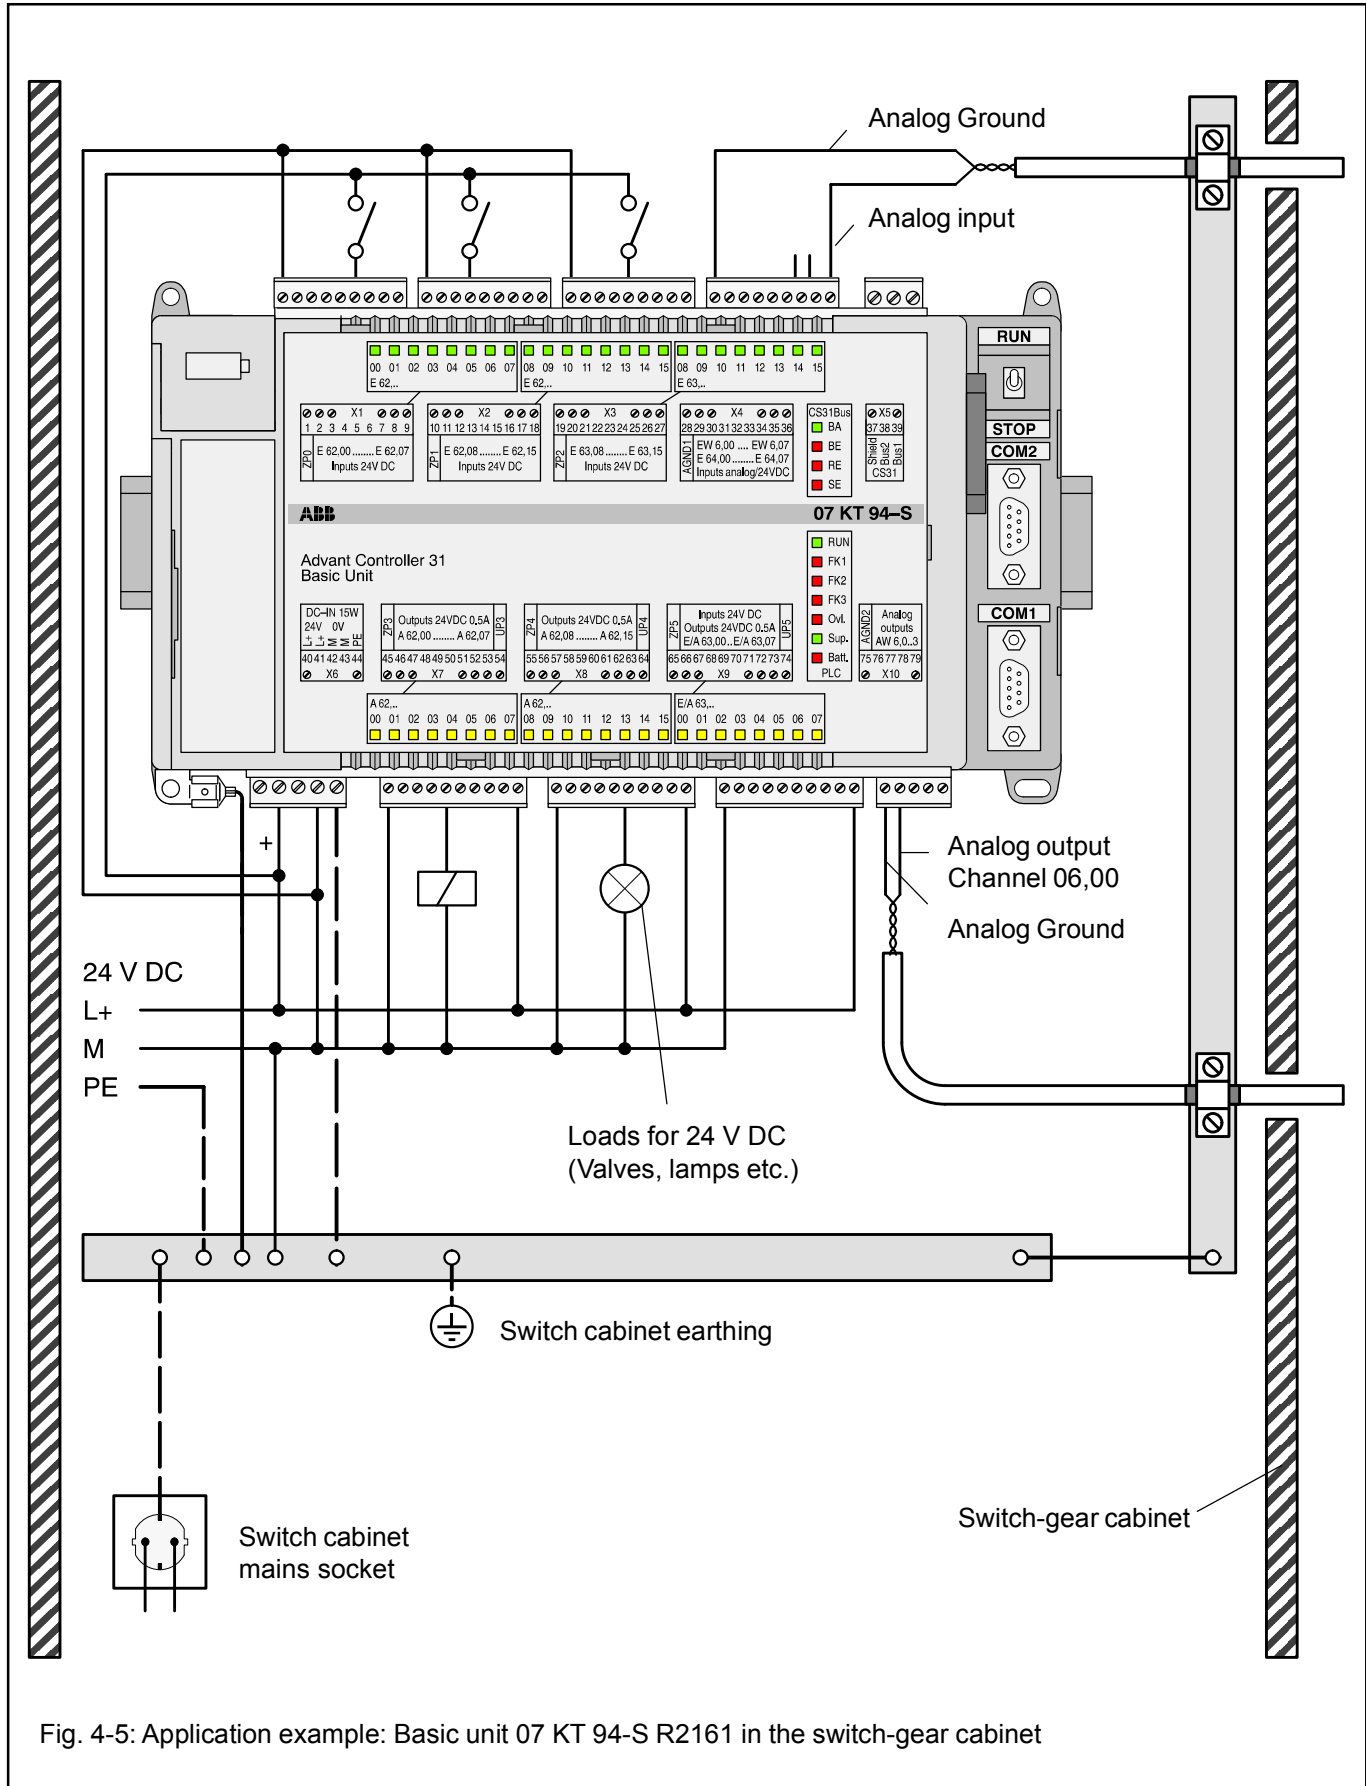

Fig. 4-5: Application example: Basic unit 07 KT 94-S R2161 in the switch-gear cabinet
- Analog signals are conducted in shielded cables (see Fig. 4-5).